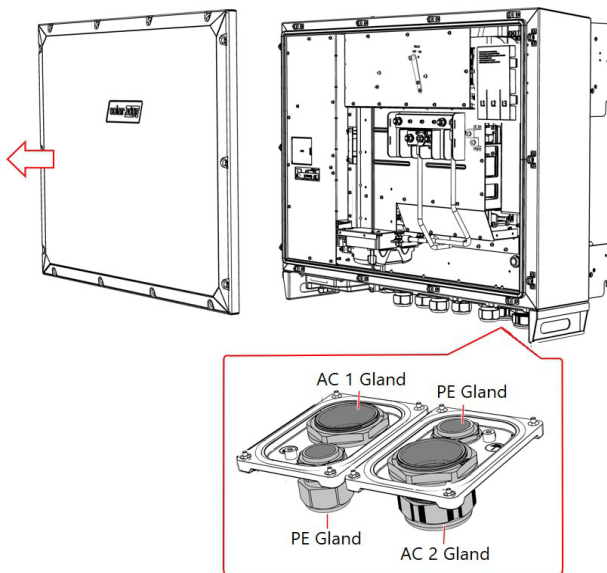

Figure 31 Inverter cover and AC panels
1. Release the Allen screws that secure the front cover to the inverter and carefully remove the cover (See Figure 31).
- Remove the nut from the Protective Earth (PE) gland and insert the PE wire through the PE gland (See Figure 31).